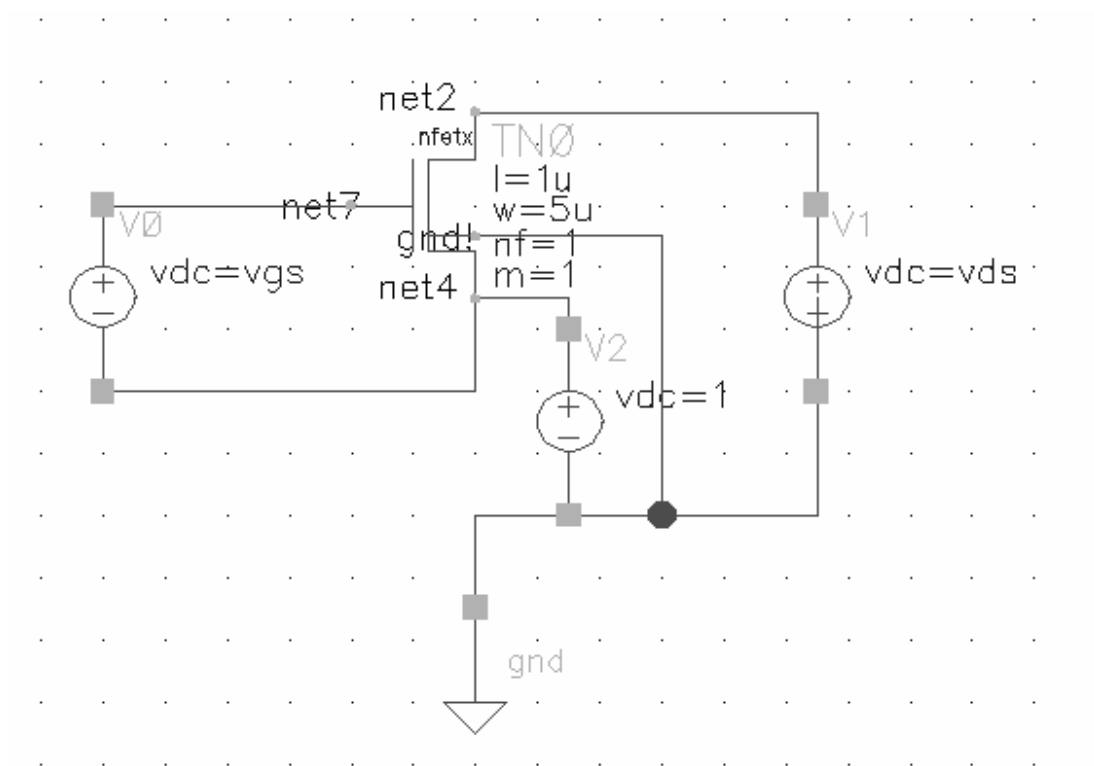

Fig. 2. Schematic for Part 5
5) Finally, we would like to see how the body effect changes  $V_{th}$ . Add a 1 V dc voltage source from the source of the transistor to ground. Now there is a difference in potential between source and bulk. The negative terminal of the  $v_{gs}$  voltage source should now be connected to the source of the transistor, instead of ground. These changes are shown in *Figure 2*. Repeat part 4 with this new circuit. Determine  $V_{th}$  from the plot. Explain how the body effect has changed  $V_{th}$ . There is no need to calculate  $V_{th}$  by hand.